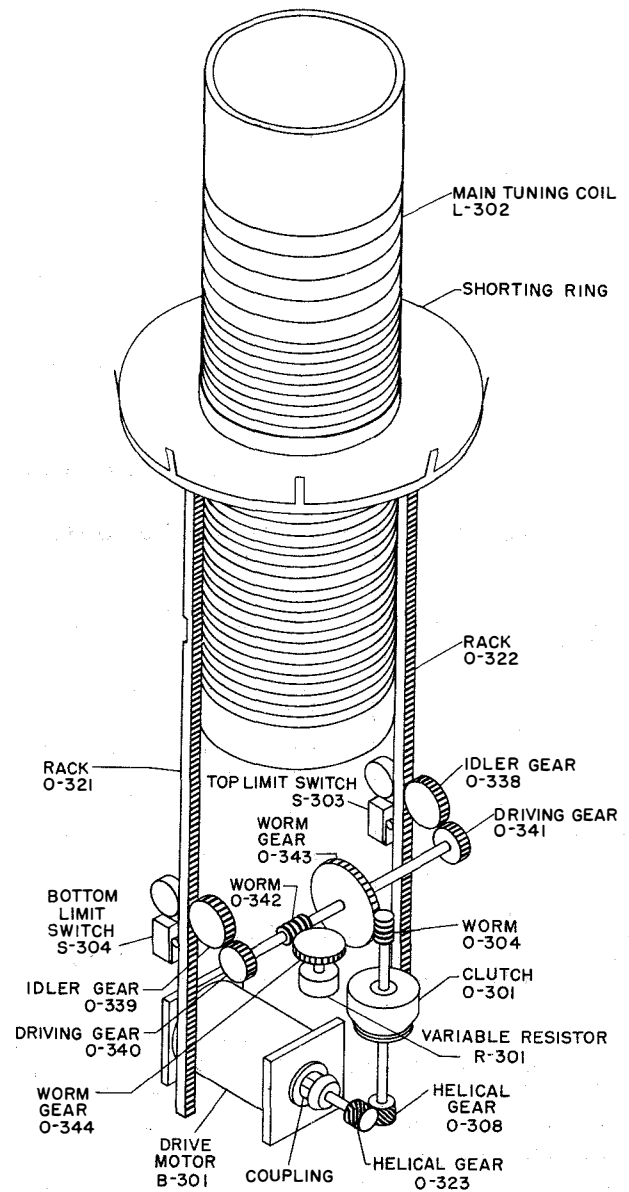

Figure 2-121. R-F Tuner Mechanical Drive
(3) R-F TUNER MECHANICAL DRIVE.—To position the shorting ring on the main tuning coil, the drive motor, B-301 (figure 2-121), is energized. Its output of rotary motion is transmitted through a coupling to an extending shaft having fixed to it a helical gear, O-323. A mating helical gear, O-308, permits the right-angle transfer to a shaft to the magnetic clutch, O-301. Rotary motion is further transmitted through the friction plates of the clutch, O-301, to an output shaft that has worm O-304 fixed to it. The mating worm gear transfers rotary motion to the main drive shaft with a 100-to-1 reduction ratio. Driving gears O-340 and O-341, on either end of the main drive shaft, transfer the rotary motion, through idler gears O-338 and O-339, to the parallel racks, O-321 and O-322. Rotary motion has now been changed to the required rectilinear motion for the positioning of the shorting ring that is mounted on the end of the racks. Also mounted on the main drive shaft is a worm, O-342, that is mated to a worm gear, O-344. This worm gear, in turn, drives the shaft of position potentiometer R-301 whose function is described in paragraph 2q(5).